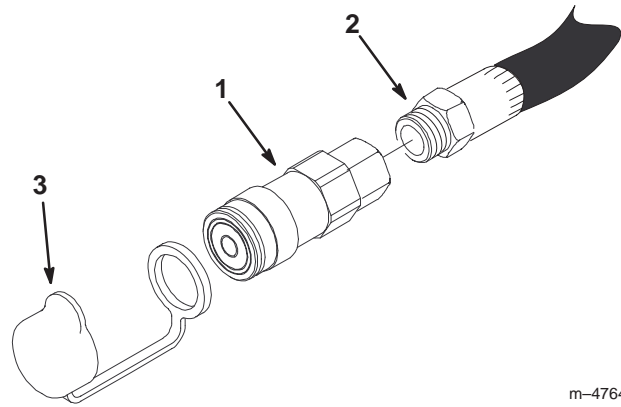

Figure 2
7. Install the female coupler assembly onto the hose as follows (refer to Figure 2 during this procedure):
9. If you are installing a kit on a traction unit, install the protective covers onto the couplers (Fig. 2).